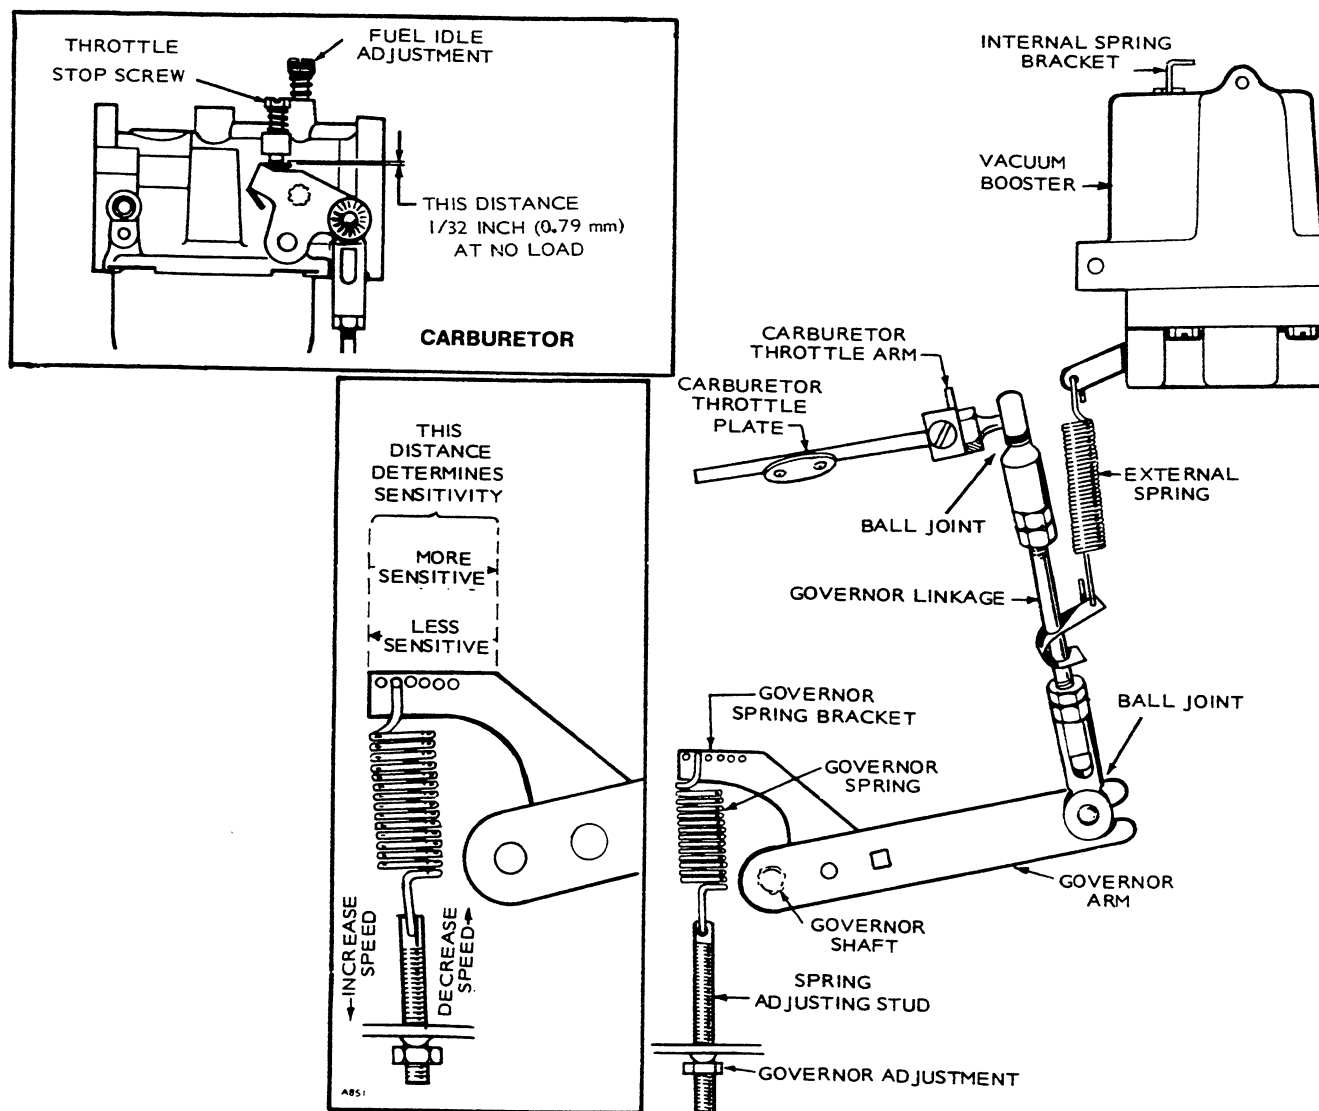

FIGURE 17. GOVERNOR DETAILS
Set throttle stop screw (located on carburetor throttle lever) with no load connected and while running at rated speed. Turn the screw to give 1/32-inch (0.79 mm) clearance between the screw and pin (Figure 17).
The governor and vacuum booster control engine speed. Rated speed and voltage appear on the nameplate (see *Specifications*). On a 2 pole generator, engine speed equals frequency multiplied by 60—thus 3,600 rpm gives 60-cycle frequency. Preferred speed does not vary more than 3 cycles from no-load to full-load operation. Be sure throttle, linkage, and governor mechanism operate smoothly. Refer to Figure 17 and make adjustments as follows:
1. After sensitivity adjustment, reconnect the booster external spring to the governor linkage (Figure 17).
4. If the speed increases more than at no-load, lessen the speed booster's internal spring tension. To change tension, pull out the spring bracket and move the pin to a different hole (Figure 17). If speed decreases when the load is applied, increase the booster's internal spring tension.